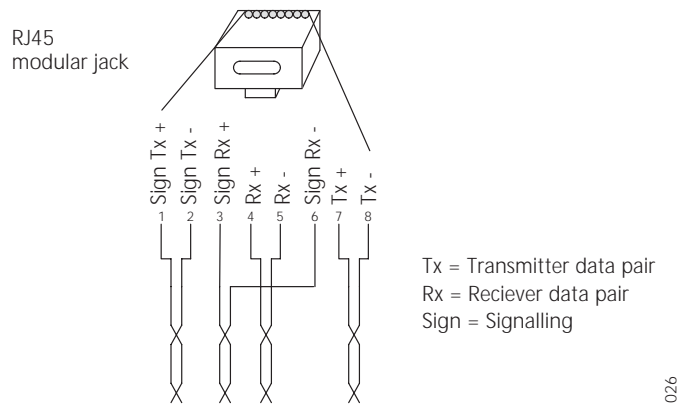
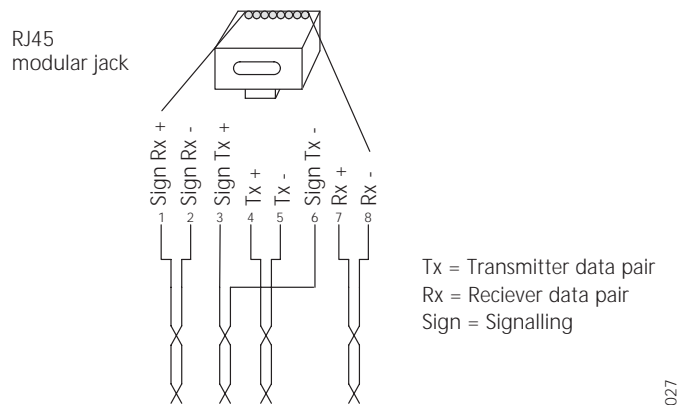

Figure 13. Connector pinning of the Sync IN cable
Figure 14. Connector pinning of the Sync OUT cable
- 2 Connect the cable to a RJ45 modular jack. For information on pinning, see figure 13 and figure 14.